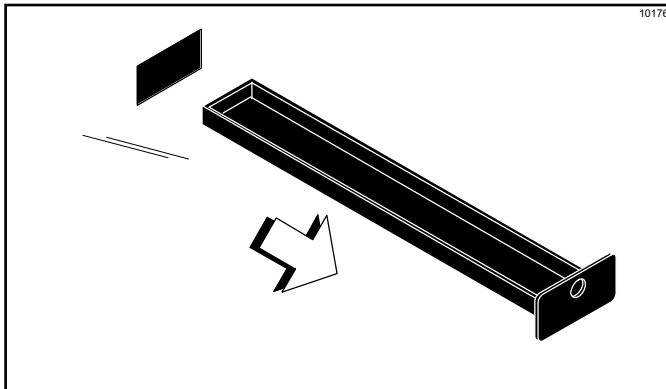

Figure 6-54
- Remove all drip pans. Take them to the sink for cleaning. (See Figure 6-54.)